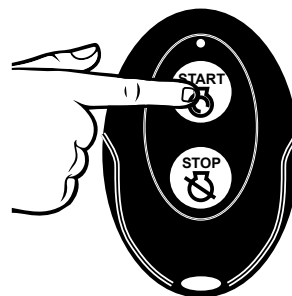

Figure 12 - Wireless Remote - START
- c. Remote Start: Click **START** on the wireless key FOB provided (see Figure 12). After the generator is running, there will be a delay of electrical output for 15 seconds. If the remote is not paired see pairing procedure on page 15.